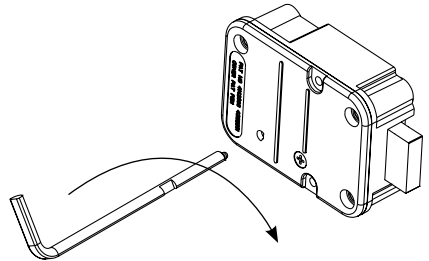

Figure 2
3. Insert the Change Key into the change key hole on the back of the lock (Figure 2).